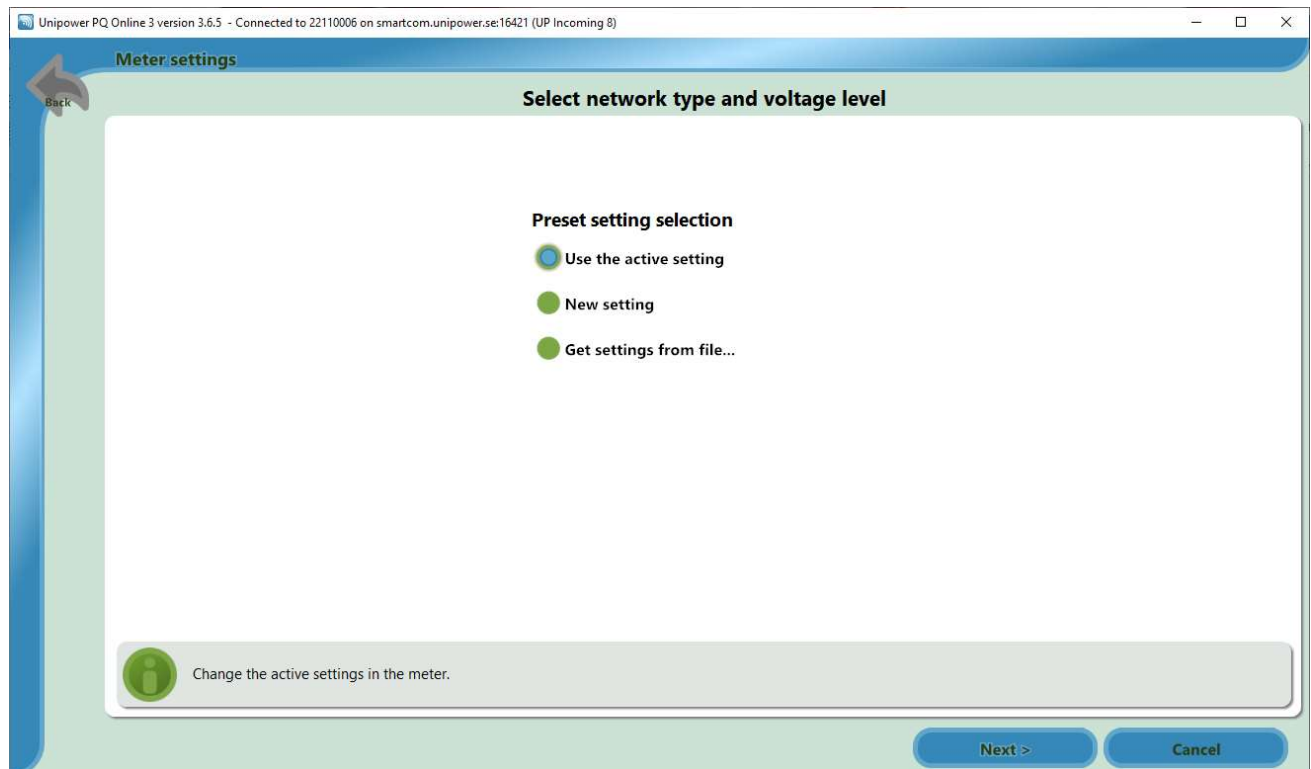

Figure 59
- Select either to create new settings, modify the current settings or get settings from file see Figure 59 below.